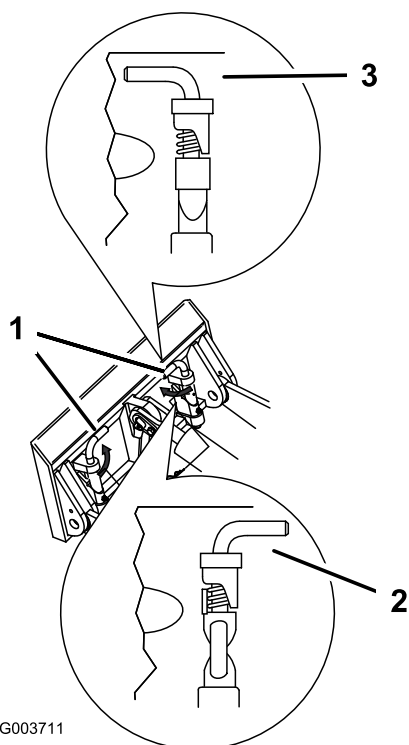

Figure 11
7. Engage the quick-attach pins, ensuring that they are fully seated in the mount plate (Figure 11).